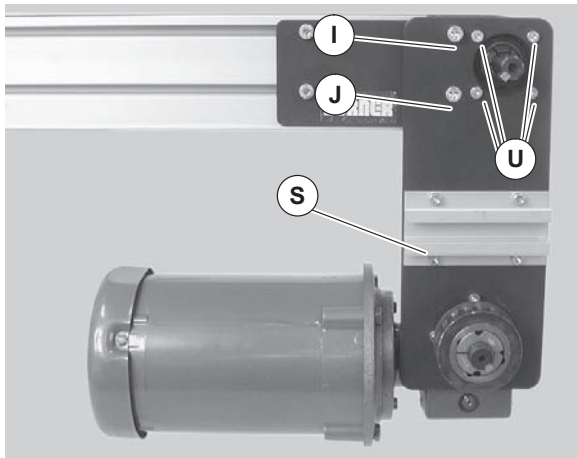

Figure 21
- d. Remove mounting screws (Figure 21, item I, J and U) and remove drive package (S).